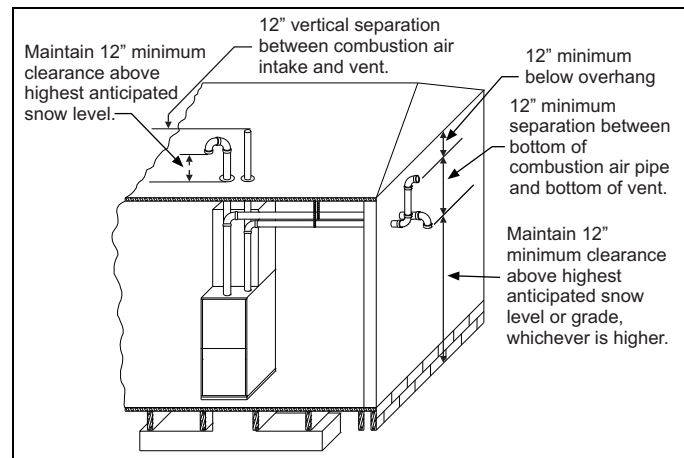
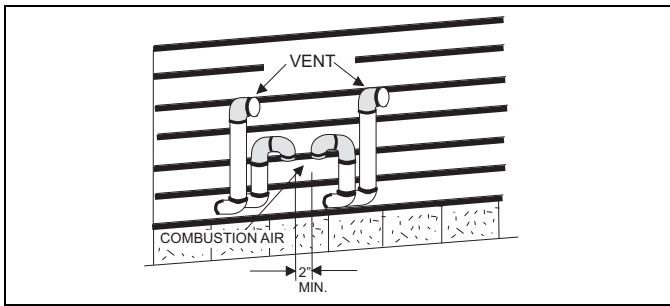

Figure 32: Termination configuration - two pipe
Figure 34: Double horizontal combustion air intake and vent termination
7. Direct vent systems must be installed so the vent and the combustion air pipes terminate in the same atmospheric zone. See Figures 32 or 33.
The combustion air side of the two-pipe configuration shown in Figures 32 and 33 can be installed so the combustion air pipe terminates as described in outdoor combustion air or ventilated combustion air sections in these instructions. Follow the instructions for outdoor combustion air or ventilated combustion air and the instructions for installing the vent system with the vent terminating as shown in Figure 34 or 35. The two-pipe system must have a separate combustion air pipe and a separate vent pipe for each furnace. Under NO circumstances can the two combustion air or vent pipes be tied together. The combustion air and vent pipes must terminate in the same atmospheric zone.